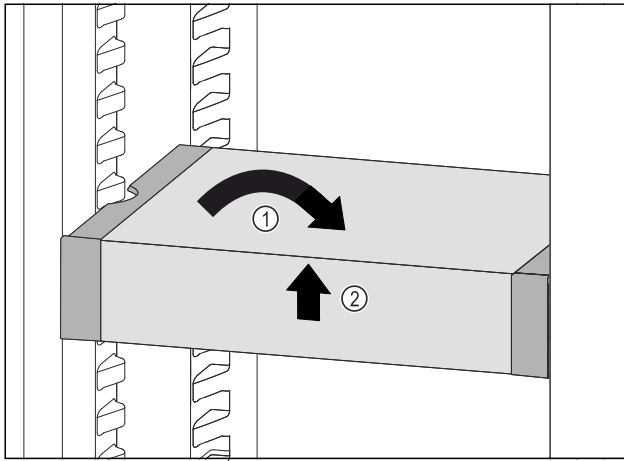

Fig. 240
- Set VarioSafe straight. Fig. 240 (1)
- Lift VarioSafe at the front. Fig. 240 (2)